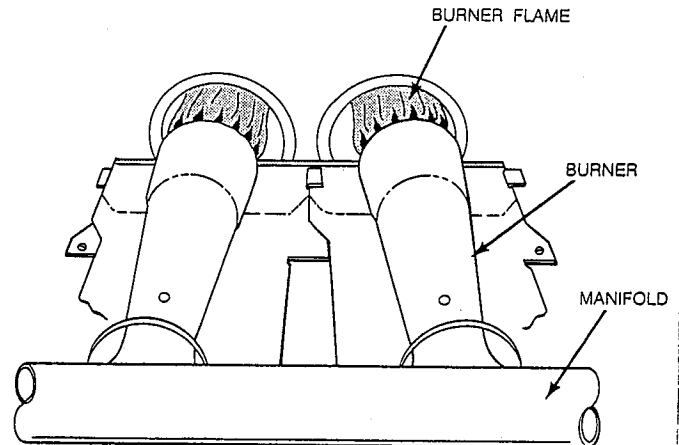

Figure 12—Burner Flame
- (3.) When correct input is obtained, replace regulator seal cap. Main burner flame should be clear blue, almost transparent. (See Figure 12.)